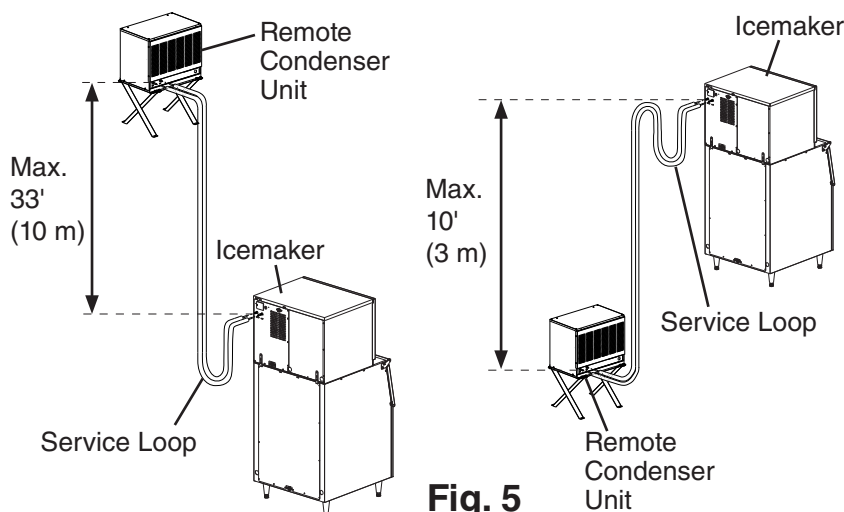

Fig. 5
- The maximum vertical distance between the remote condenser unit and the icemaker is 33' (10 m) above or 10' (3 m) below the icemaker. These distances are measured fitting to fitting. See Fig. 5.
- 1) Route the factory line set or appropriate size copper tubing. When field fabricating, insulate the copper tubes separately. Leave a service loop behind the icemaker to allow the icemaker to be pulled out for service. See Fig. 5.